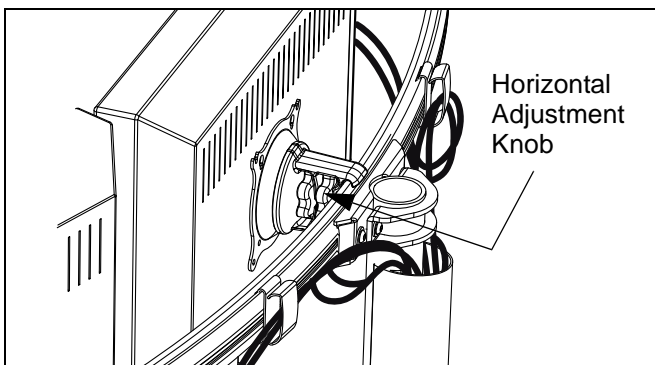

Figure 11: Display Horizontal Adjustment
1. Loosen Centris bracket rear adjustment knob. (See Figure 11)